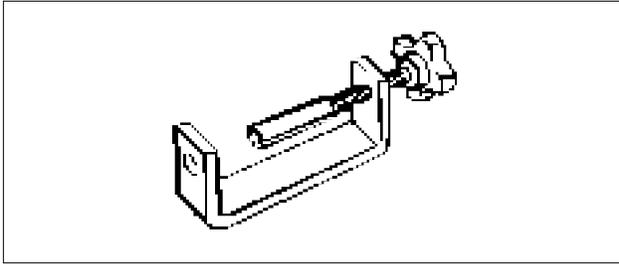

FIG. 2
4. Remove the locknut (13) from the slave piston adjusting screw (Robo-Lash™) (12) and back out the screw until the slave piston is fully retracted (screw is loose).
5. Install the slave piston tool, Cummins P/N 3871654, (Fig. 2), with the adjusting screw fitted into the hole in the tool.